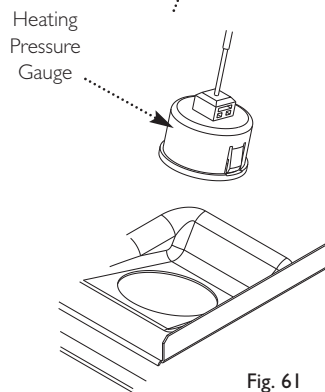

Fig. 61
13.16 Heating Pressure Gauge (Figs. 61 & 61a)